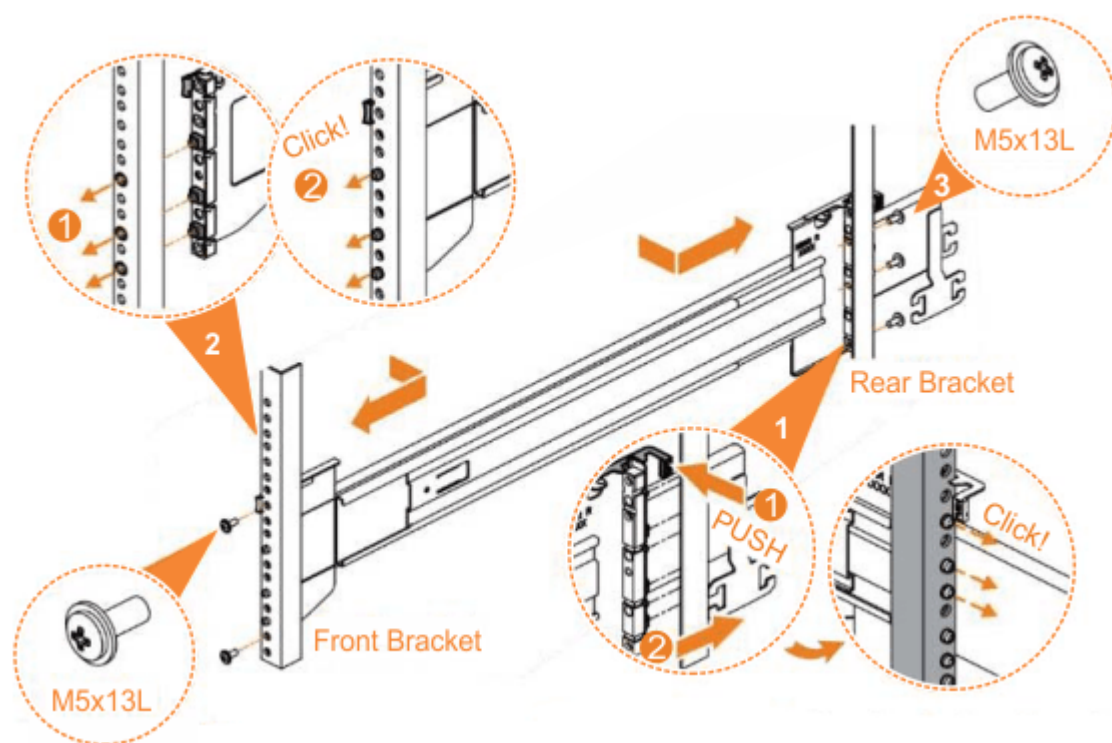

Figure 31. Installing the rail assembly to the rack frame
6. Use the M5 screws to install the outer rail member and bracket assembly to the rack, as shown in Figure 31 on page 28.